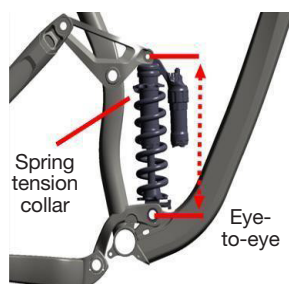

Figure 1
1. Turn the spring tension collar counter clockwise until there is minimal tension on the spring (*Figure 1*).
3. Position the bicycle next to a wall so the bike owner can sit on the bike with both feet on the pedals while steadying himself with one arm. It is necessary they sit on the saddle without bouncing. Measure the eye-to-eye distance while rider is seated on the bike (*Figure 1*). They should now dismount.